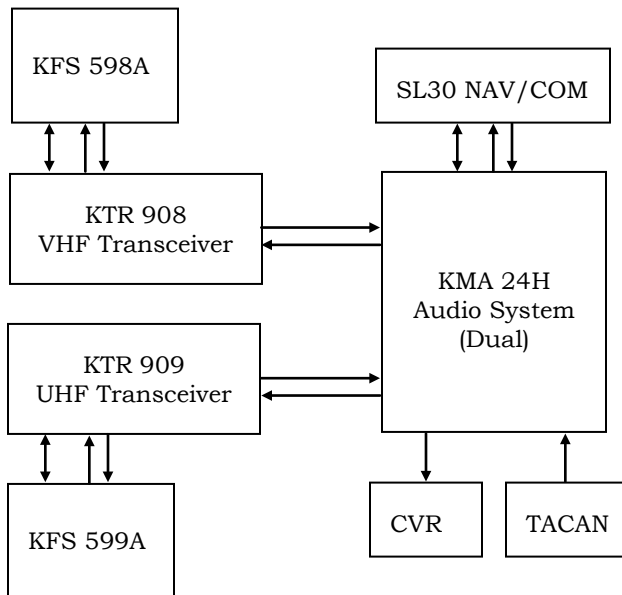

Figure 7-1. System Block Diagram
6. The system block diagram is shown in Figure 7-1.